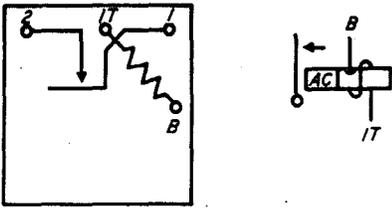

FIG. 20-WINDING AND SPRING TERMINAL ARRANGEMENT AS VIEWED FROM THE REAR (TERMINAL SIDE)-186 TYPE RELAY
2.37 The spring operated by the armature stud is numbered 1 and the front contact is numbered 2 as shown in Fig. 20. The top winding terminal is designated 1T and the bottom winding terminal is designated B.